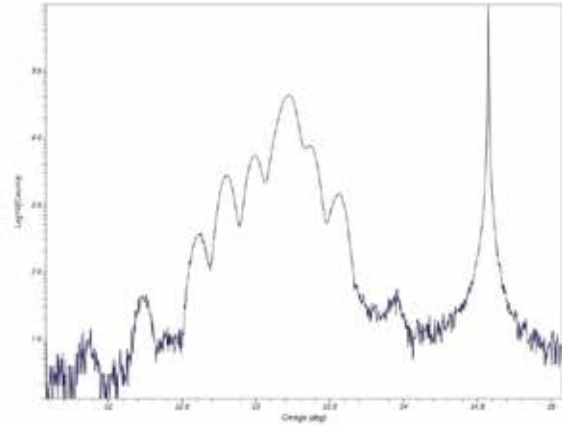

Figure 3 – High resolution Omega:2-Theta scan near the Si (004) reflection
Figure 3 shows an Omega:2-Theta rocking curve data acquired near the Si (004) substrate peak. The data shows that the Si1-xGex thin film is made up of at least nine individual layers with differences in Ge content between each layer. Overall X-ray intensities are typically very high for symmetric reflections like this one so reasonable quality data may be acquired even on a traditional diffractometer. However, it is not possible to separate layer composition from strain/relaxation using symmetric reflection data (see HRXRD app note for details) so Reciprocal Space Maps (RSMs) on weaker asymmetric reflections are often needed. These scans, which are built up from a series of Omega:2-Theta scans taken with different omega offsets, can take a long time to acquire.
33.9 degrees in Figure 3. Peak positions agree between the two measurements within about +/- 0.02 reciprocal lattice units (rlu) which is excellent given the difficulty in finding the exact center of these fairly diffuse layer peaks.